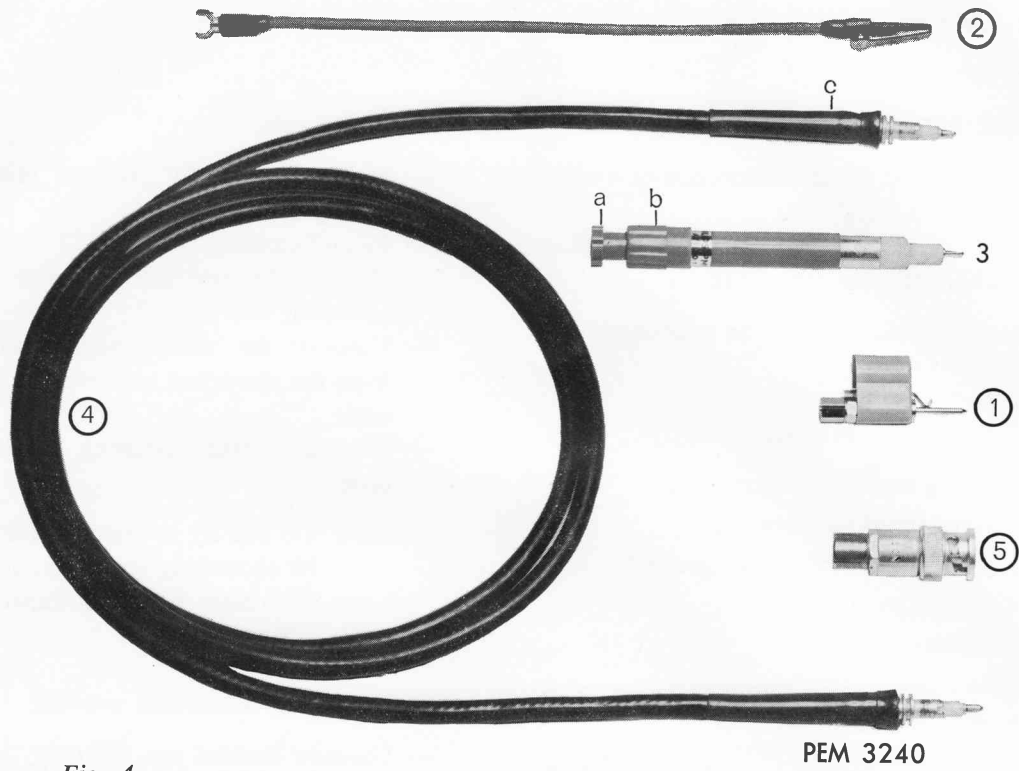

Fig. 4
The probe consists of: (Fig. 4).
- Grasp the serrated end "a" and loosen bush "b" (See Fig. 4).